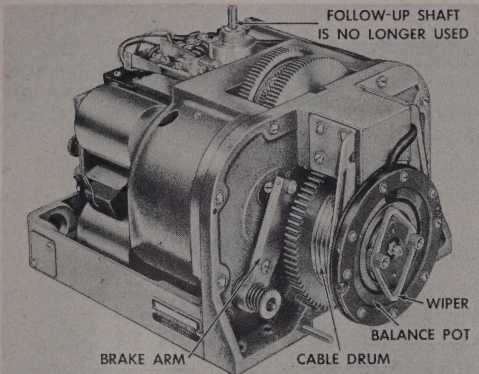

Fig. 73—Servo Unit, front view with covers removed
3. The balance pot shown in Fig. 72 and illustrated in Figs. 73 and 74 controls the amount of cable drum rotation resulting from a given deviation of the airplane.
pot brackets. (Compare with earlier type shown in Figure 73.) The new bracket provides greater rigidity because its lower end is supported by a stud anchored in the Servo Unit frame.